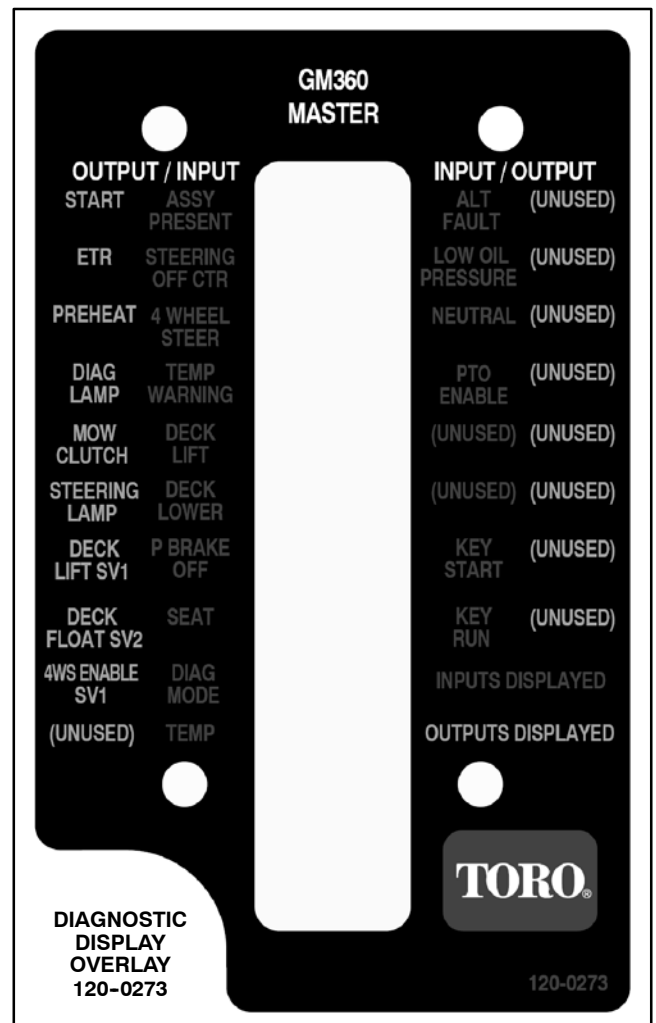

Figure 13
3. Connect the Diagnostic Display connector to the harness connector. Make sure correct overlay decal is positioned on the Diagnostic Display (Fig. 13).